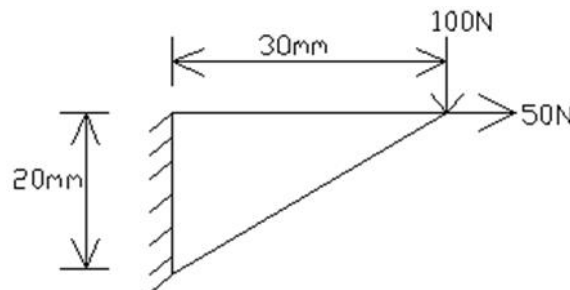

Fig. 4
1. a) Explain Stress- strain relations and develop the Strain Displacement (D) matrix for plane stress and plane strain conditions. 7M
2. a) Derive element strain displacement matrix (B)? 7M
5. For a triangular plate shown in the figure 4, determine the deflection at the point of load using one triangular element. Thickness is 10mm, $E = 70 \times 10^3$ MPa, $\mu = 0.3$